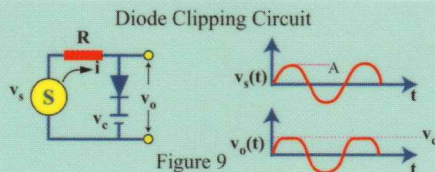

Figure 9
- A **diode circuit** can be designed to clip-off the voltage above a certain value. That is, the circuit will limit voltage inputs to a maximum level. The clipper circuit and waveform clipping are as illustrated (Fig. 9).